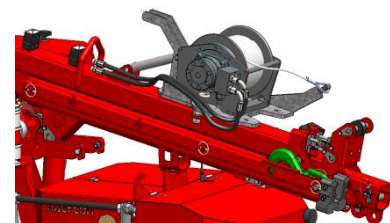

Figure: 46
- Remove the manual jib extension from the boom support (see figure 46).